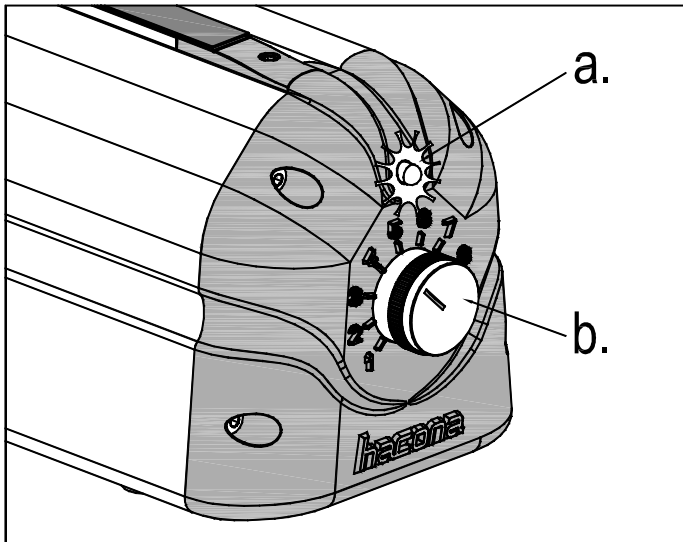

Figure 4 Operation setting
The machine is ready for operation after it is connected to the electricity network. The yellow light of the LED (lamp) indicates the ready state. (**Figure 4 “a”**).
The correct sealing time should be set referring to the type and width of the used film. For effecting a trial sealing set the sealing time regulatory button (**Figure 4 “b”**) to the lowest setting (1). Place the film between the sealing head and the sealing electrode. Close the sealing head and wait for the end of the sealing time while continuously pushing it down. During sealing the light of the LED (lamp) (**Figure 4 “a”**) changes from yellow to red. In order to achieve a perfect seal it is advisable to keep the handle down for a few seconds after the sealing ends so that the seal cools down under pressure and becomes extremely solid. After the cool down time lift the handle and the seal is ready.
If the sealing of the film is not perfect or the bag is not sealed properly, the sealing time has to be increased by changing the sealing time regulatory button (**Figure 4 “b”**) to a higher setting.